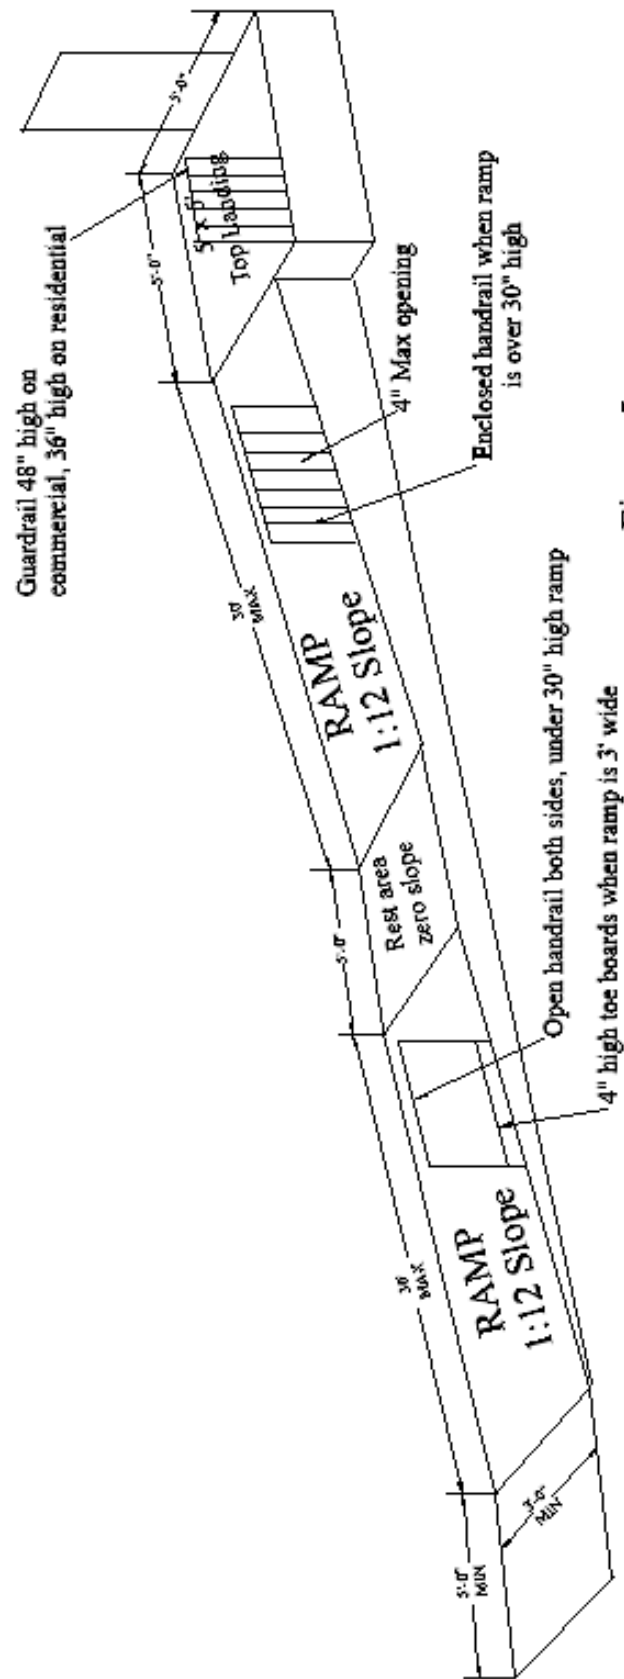

Figure 5
- 1) Building codes are followed (see Figure 5, Cedar Rapids building code handout).